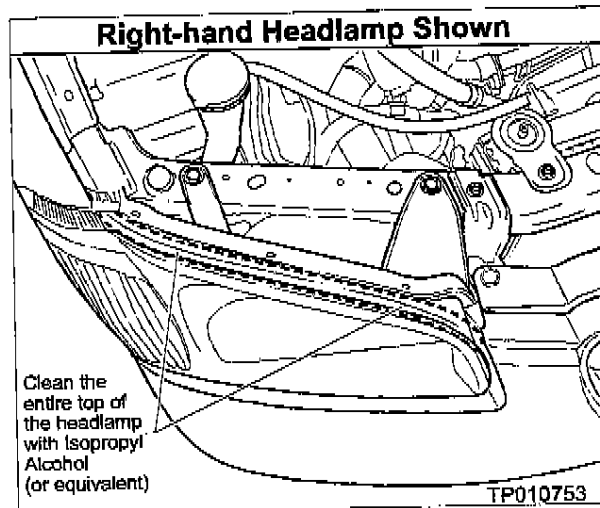

Figure 5
- A. Clean the entire top of the Right-hand Headlamp using a clean, soft cloth and Isopropyl Alcohol (or equivalent). See Figure 5.